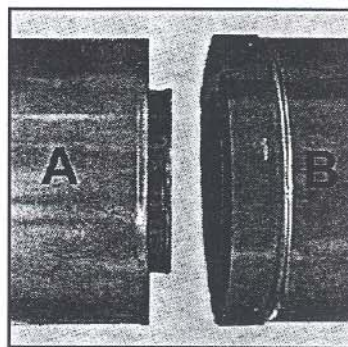
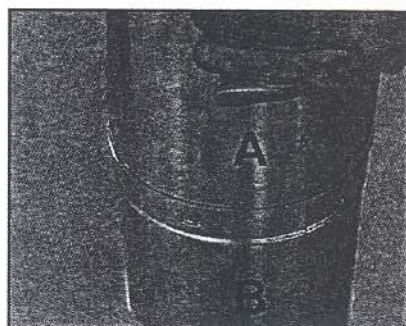

Figure 29
Figure 30
- 2) Insert the outer flue of section "A" into the outer flue of section "B". See Figure 29. Once both inner and outer flues are started, press section "A" into section "B" firmly until all lances have snapped into place. Tug slightly on section "A" to confirm it has completely locked into place. See Figure 30.